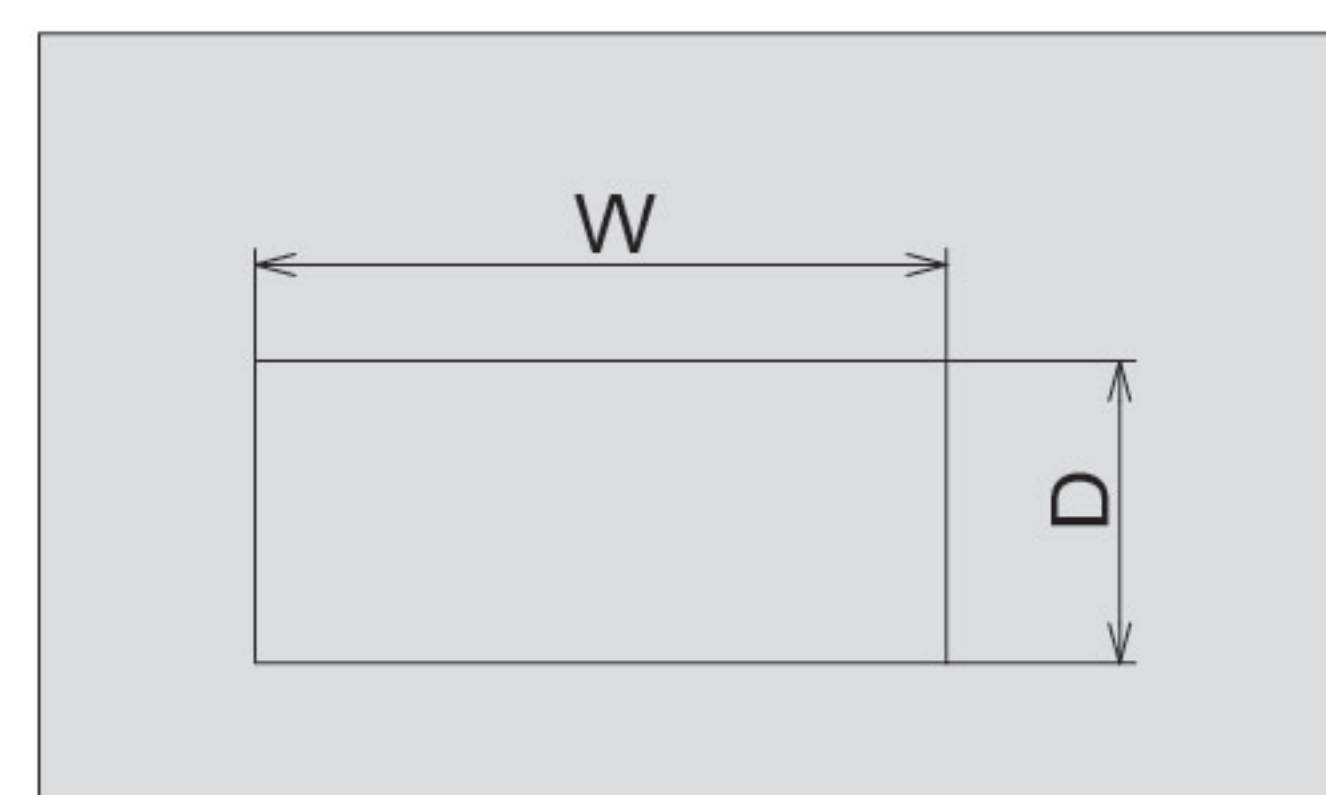
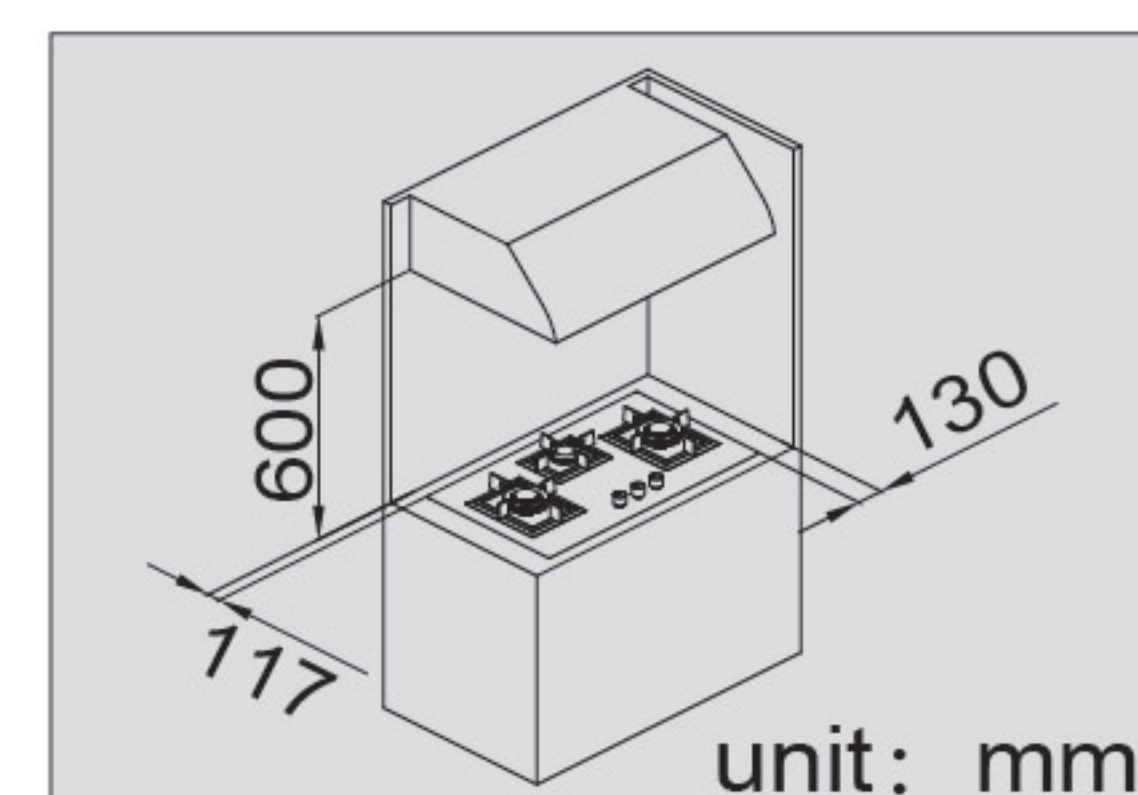

Fig.3
Fig.4
If it's GLG90305, please create an opening with the dimensions 816mm(W)×460mm(D) shown in the figure 3 . Keep a minimum clearance of 117mm from the rear edge to the combustible material and 130mm from the side edges to the combustible material. Make sure there is a minimum of 600mm between the work surface and the range hood that may be installed directly above them (figure 4).